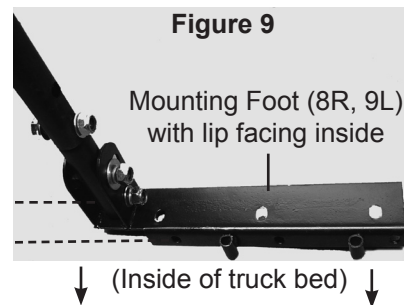

Figure 9
13. Fasten Front (8L, 8R) and Rear (9L, 9R) Mounting Feet to Coupler Risers, using Bolts (27), Nuts (28), Spring Washers (29) and Flat Washers (30). See **Figure 9**, below.
Please note: All Mounting Feet must be installed with lips facing towards INSIDE of bed truck. See **Figure 9**, below.